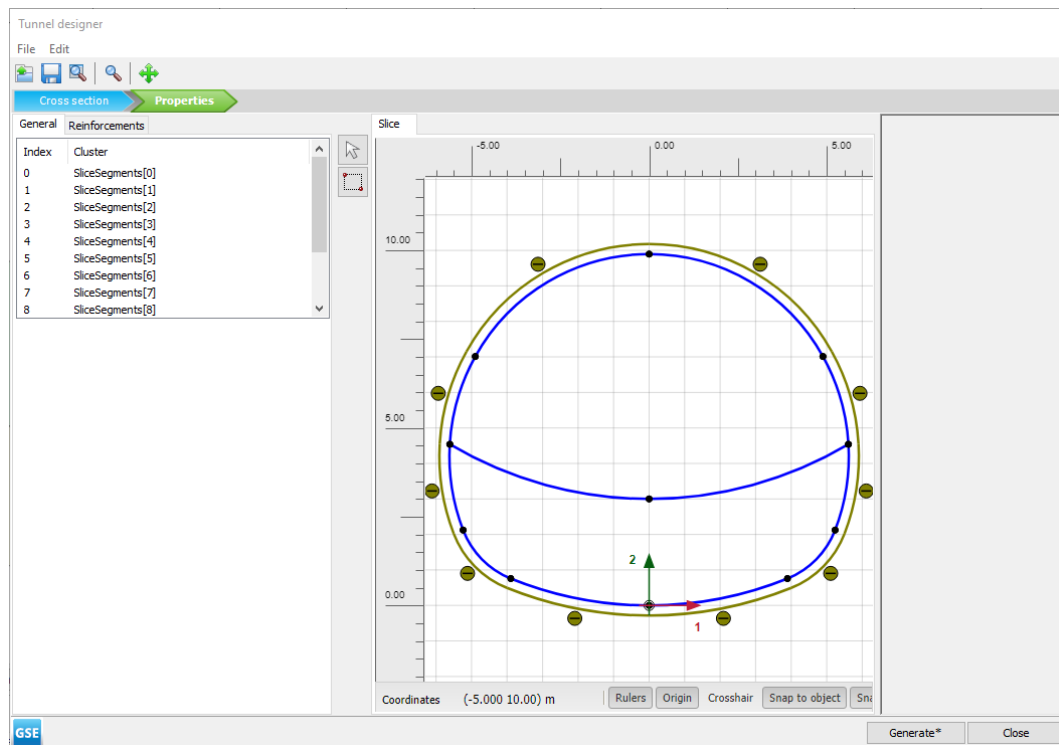

Figure 70: Final tunnel
- Assign negative interfaces to the lines defining the shape of the tunnel (not the excavation levels). The final tunnel view in the **Tunnel designer** window is shown in Figure 70 (on page 96):